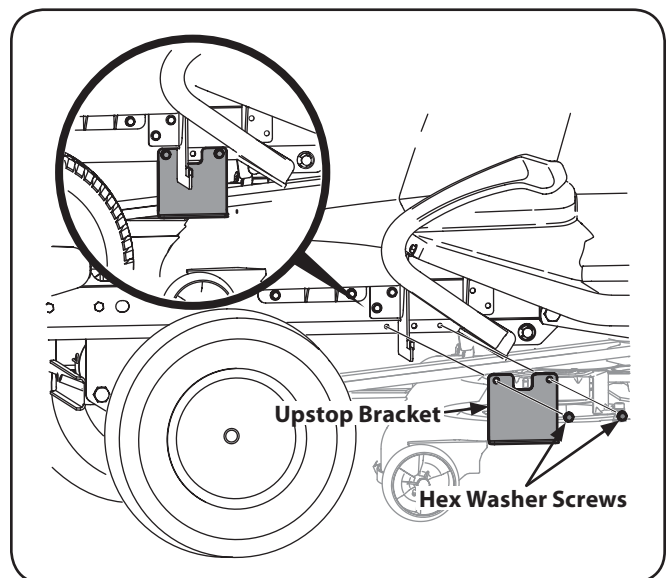

Figure 2-7
1. Attach the upstop bracket on the left side using the hex washer screws as shown in Fig. 2-7.